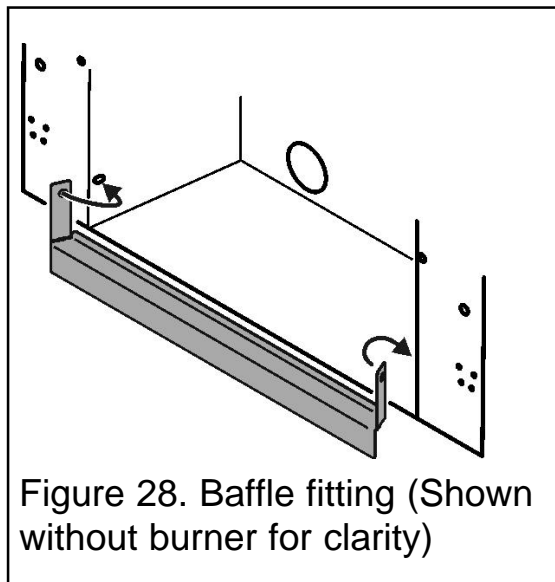

Figure 28. Baffle fitting (Shown without burner for clarity)
3. A 'Hole in the wall' baffle is supplied with 'Chic' models. In elevated installations this baffle will reduce the visibility of the sealing tape. If required, locate the baffle as in figure 28.